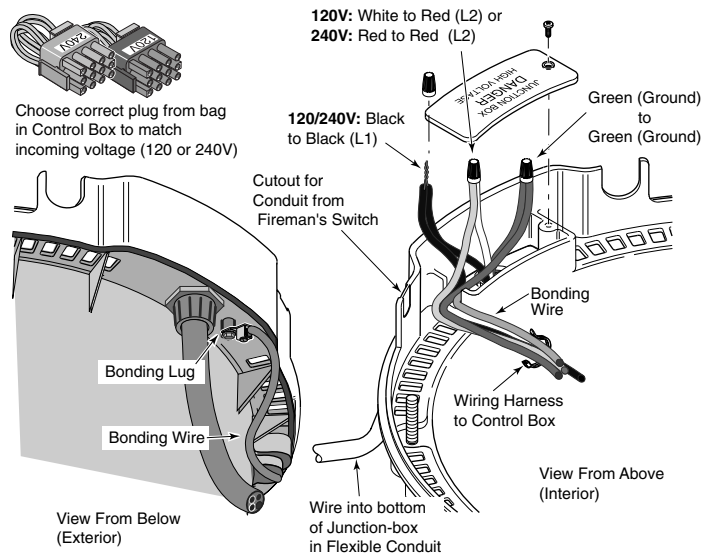

FIGURE 23: Field Wiring
Connect the L1 of the power supply to the black wire, the L2 or neutral lead to the red wire, and the ground wire to the green wire (See Figure 23).
5. Connect the wires between the Fireman's Switch terminals on the heater and those on the time clock using 18 gauge wire with a minimum 3/64" (1.2mm) thick insulation rated for a temperature rise of at least 105°C. Route the wires out through the knockout on the bottom of the Control Box. Use a 90° conduit el and conduit run out through the cutout on the Lower Enclosure, next to the Junction Box (see Figure 23).